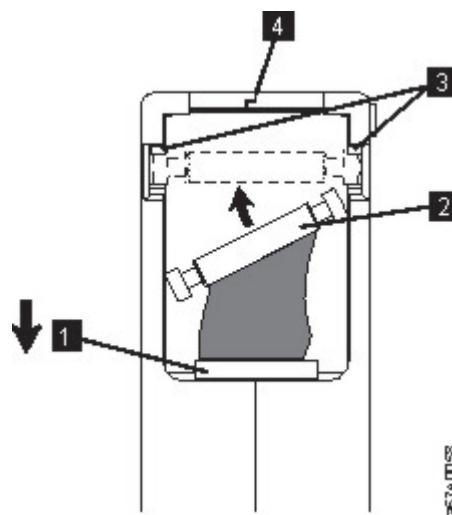

Figure 103. Placing the dislodged leader pin into the correct position
1. Slide open the cartridge door (1 in Figure 103 on page 224) and locate the leader pin (2) (you might need to shake the cartridge gently to roll the pin toward the door).
2. With plastic or blunt-end tweezers, grasp the leader pin and position it in the pin-retaining spring clips (3).